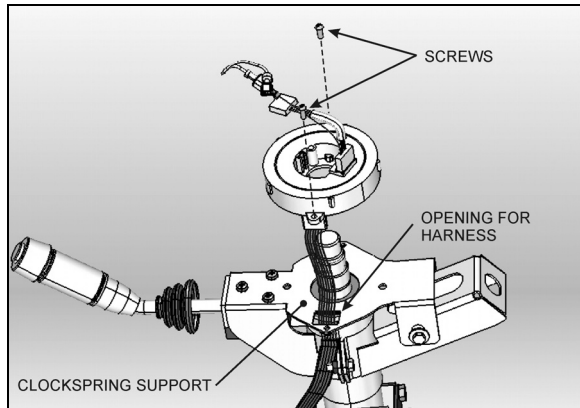

FIGURE 13: CLOCKSPRING INSTALLATION
3. Route the new clockspring harness through the opening in the clockspring support (Fig. 13). Plug the connector at the base of the